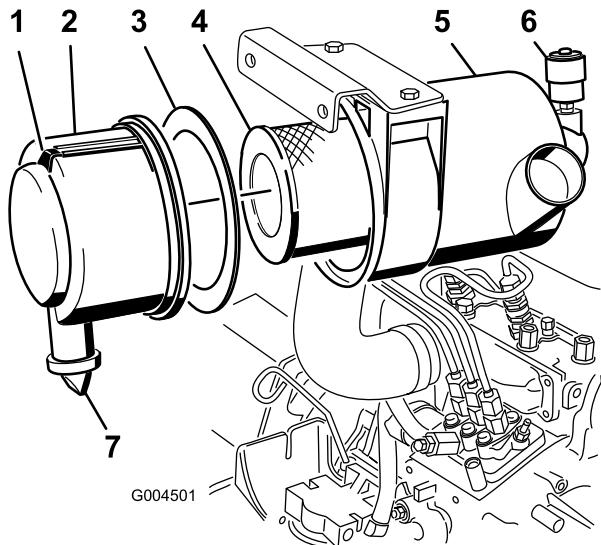

Figure 45
- Service the air cleaner filter when the air cleaner indicator (Figure 45) shows red or every 400 hours (more frequently in extremely dusty or dirty conditions). Do not over service the air filter.
- Pull the latch outward and rotate the air cleaner cover counter-clockwise (Figure 45).
- Remove the cover from the air cleaner body (Figure 45).
- Remove and replace the primary filter (Figure 45).
- Ensure that the foam gasket is in place in the cover and that it is not torn or damaged (Figure 45). If it is damaged, replace it.
- Remove the rubber outlet valve from the cover (Figure 45).
- Reset the indicator (Figure 45) if showing red.